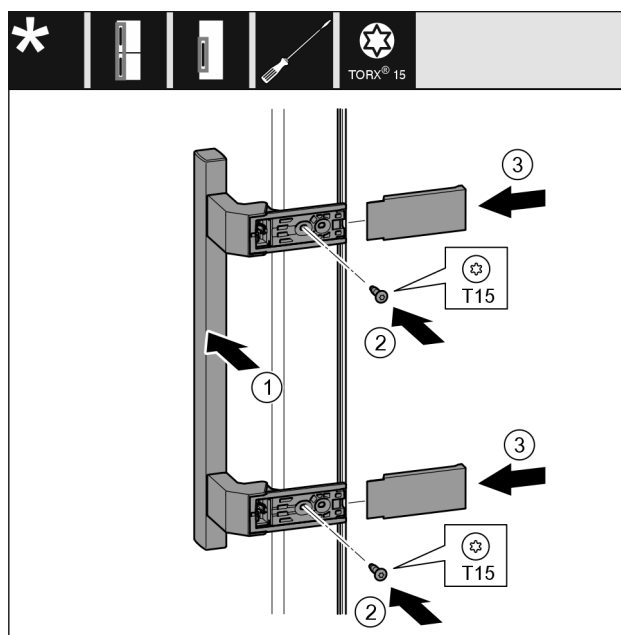

Fig. 41
- Attach the handle on Fig. 41 (1) the opposite side.
- Tighten the screws Fig. 41 (2) with the screwdriver.
- Attach the covers Fig. 41 (3) on the sides and slide them on.